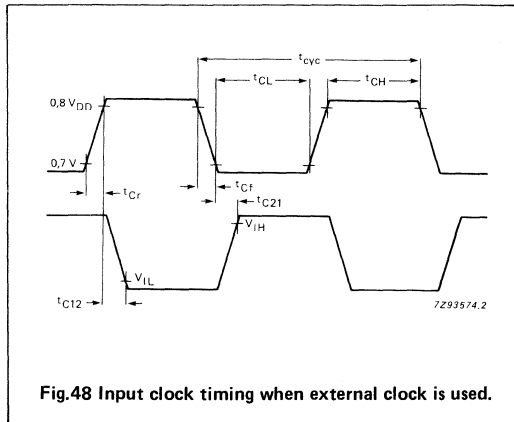

Fig.48 Input clock timing when external clock is used.
**CLOCK TIMING** (see Fig. 48, 49)